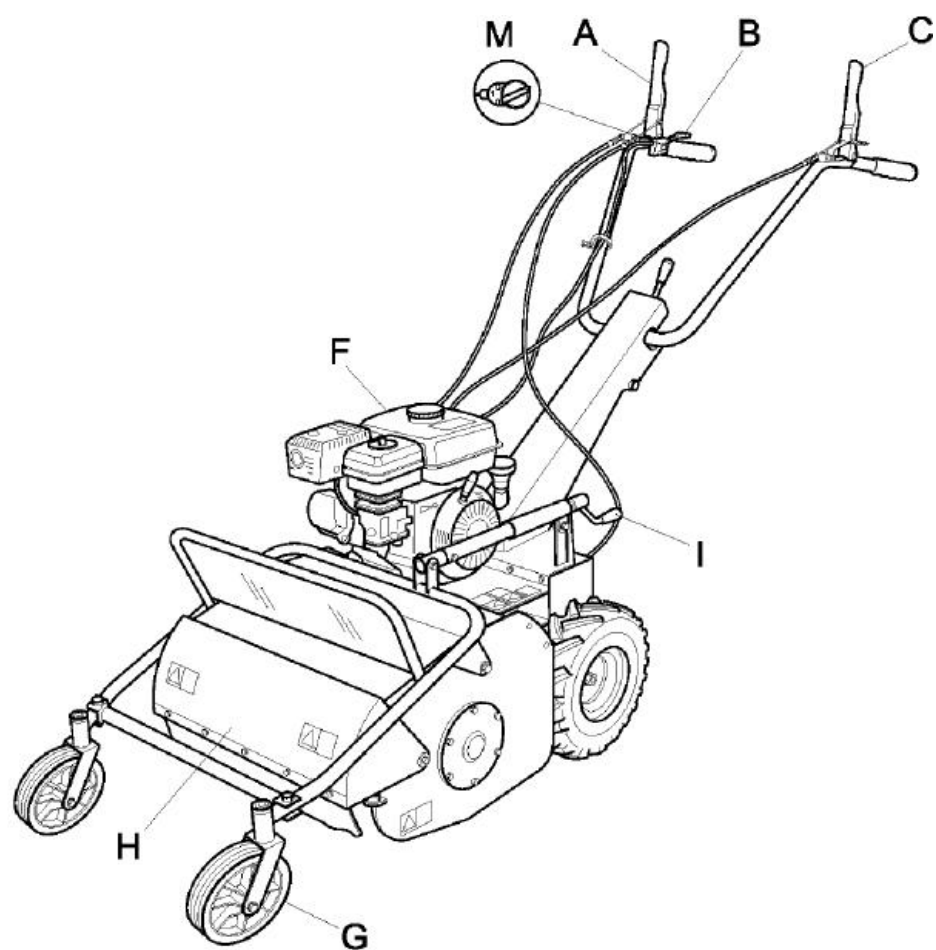

Figure 1
Figure 1 bis
The front guard (Fig. 1, ref. E) opens or closes automatically according to the amount of grass to be cut. Use of the machine with the guard left open is strictly prohibited. This may cause the outward projection of objects.
- Before switching on the engine make sure that both engagement levers (forward clutch control lever - Fig. 1, ref. B and flail clutch control lever - Fig. 1, ref. A) are in the disengaged position (released) ; the service brake will be on automatically.
- The guard in front of the flails (Fig. 1, ref. E) must always be closed while the machine is in use.